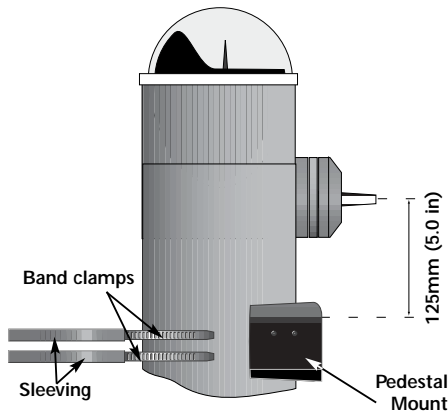

Fig 5.4 - Correct positioning of pedestal mount
2. Position the pedestal mount on the front of the pedestal. The vertical distance between the circular slot centres and the wheel shaft should be 125mm (5.0in) and the clamp should be exactly parallel with the wheel in both planes (Fig 5.4).